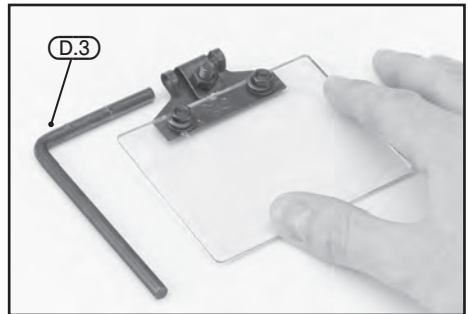

FIG.5
- Insert the shortest end of the mounting rod (D.3) into the hole in the shield frame (D.1) (Fig.5).